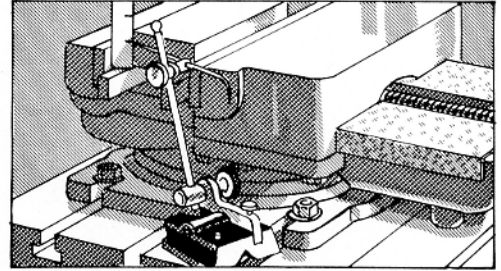

FIG. 301
- Hold a scale in a vertical position with one end on a parallel which supports the work, or on the bottom of the vise if the work is seated on it. (Fig. 301).
- Set the point of the scribe to the dimension on the steel rule which coincides with the thickness of the finished work. (Fig. 301).